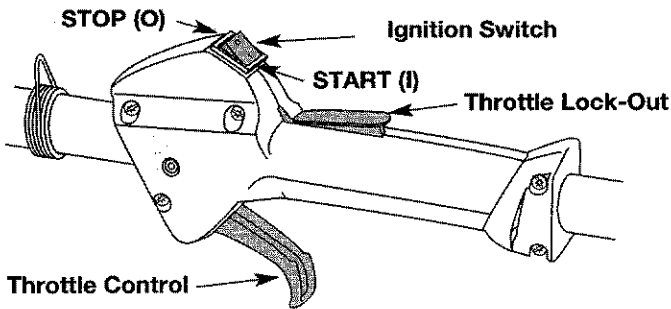

Fig. 21
3. Put the Ignition Switch in the **START [I]** position (Fig. 21).
6. Whilst pressing the throttle lock-out, squeeze the throttle control to the wide open (full throttle) position (Fig. 21).
1. Put the Ignition Switch in the **START [I]** position (Fig. 21).
3. Whilst pressing the throttle lock-out, squeeze the throttle control to the wide open (full throttle) position (Fig. 21).
1. Release your hand from the throttle control (Fig. 21). Allow the engine to idle.
2. To stop the engine, put the Ignition Switch in the **STOP [O]** position (Fig. 21).
3. Put the ignition switch in the **START** position [I] (Fig. 21).
1. Put the ignition switch in the **START** position [I] (Fig. 21).
1. Release your hand from the throttle control and allow the unit to idle (Fig. 21).
2. To stop the engine, put the Ignition Switch in the **STOP** [O] position (Fig. 21).